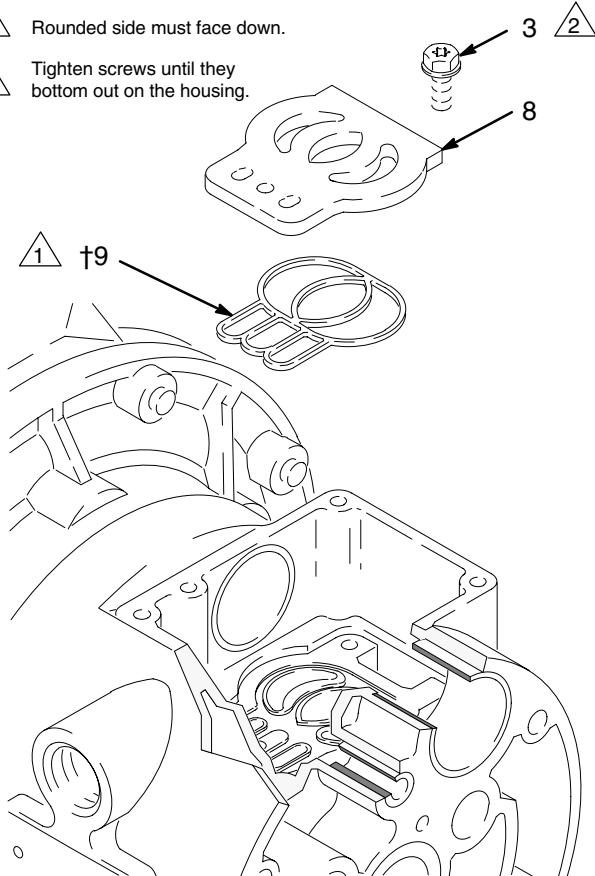

Fig. 11
5. Inspect the valve plate (8) in place. If damaged, use a Torx (T20) screwdriver or 7 mm socket wrench to remove the three screws (3). Remove the valve plate (8) and seal (9). See Fig. 11.
2. Install the valve plate seal (9) into the groove at the bottom of the valve cavity. The rounded side of the seal **must face down** into the groove. See Fig. 11.
3. Install the valve plate (8) in the cavity. The plate is reversible, so either side can face up. Install the three screws (3), using a Torx (T20) screwdriver or 7 mm socket wrench. Tighten until the screws bottom out on the housing. See Fig. 11.